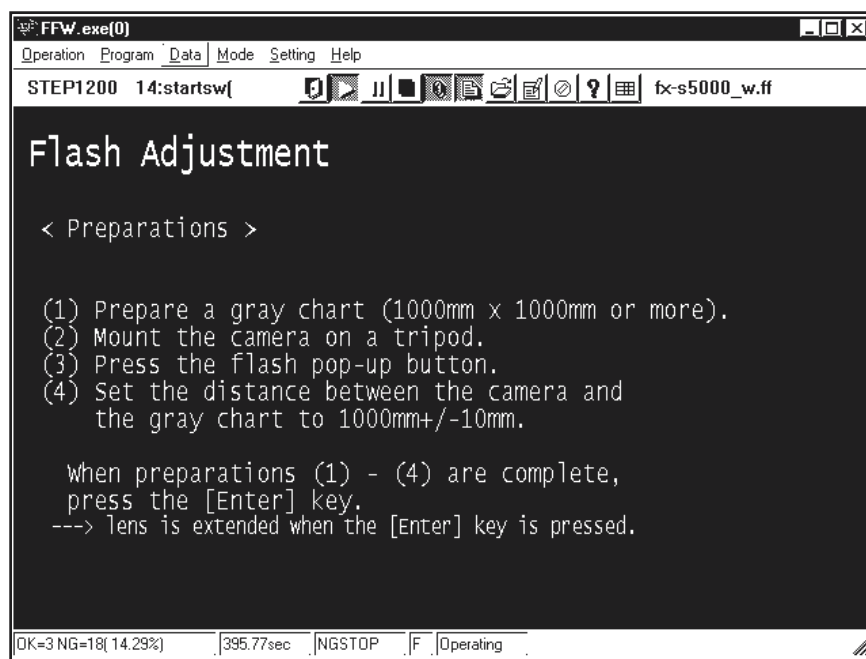

Fig.28
---> The **[Flash Adjustment Preparation Screen (Fig.28)]** appears.
Follow the instructions on the **[Download start Screen (Fig.28)]**, and press the Enter key.